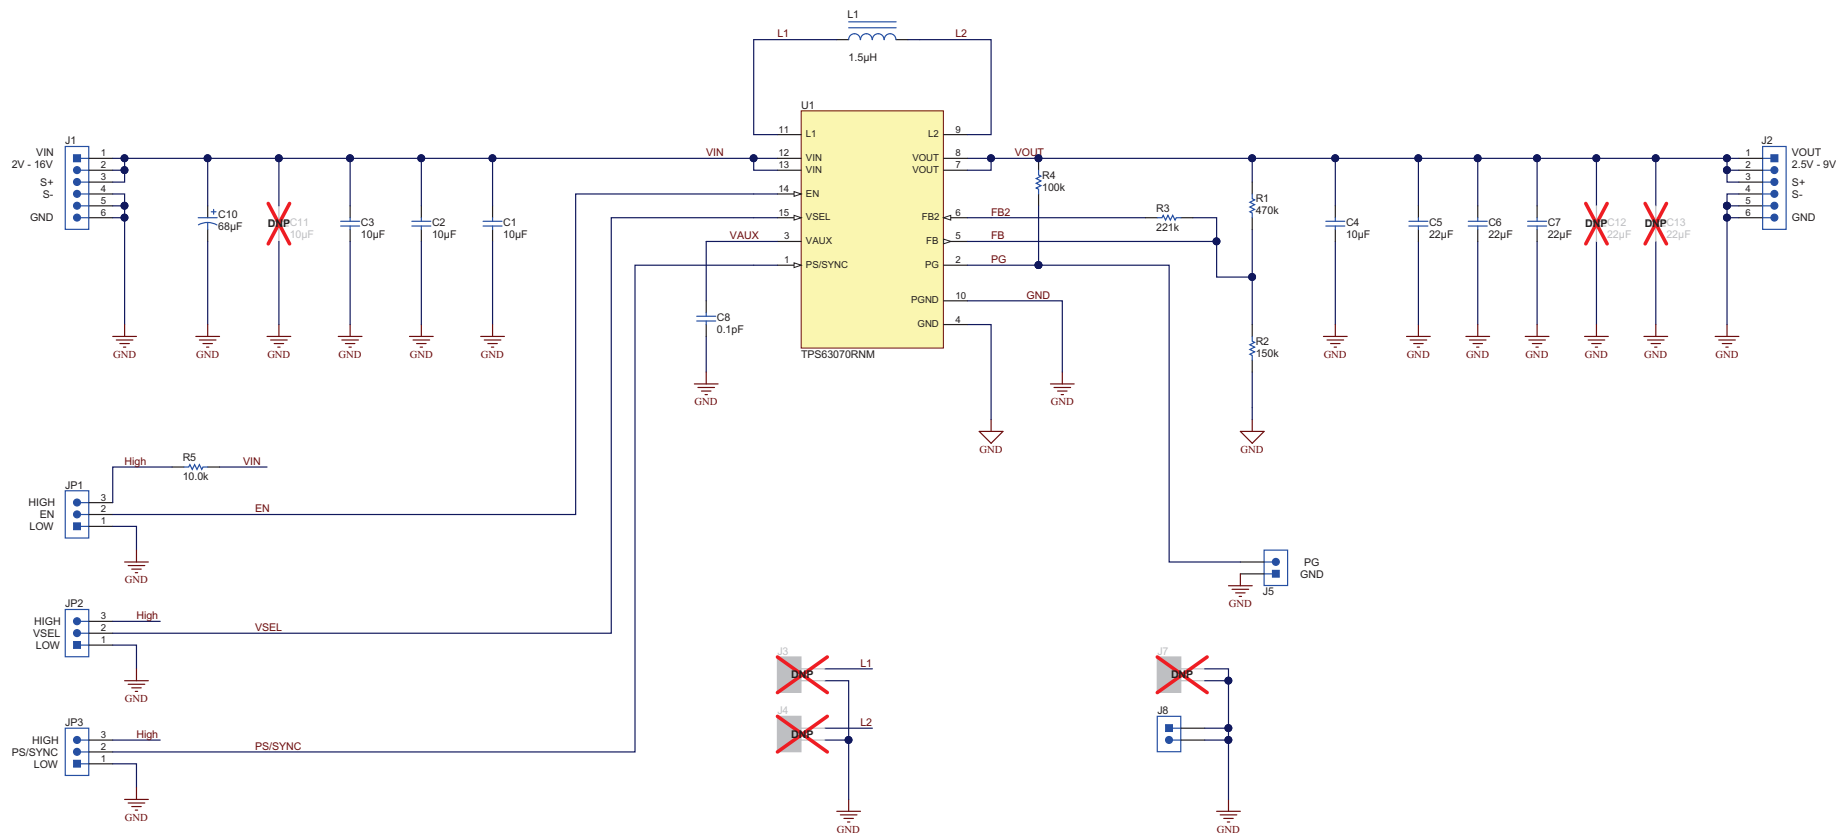

Figure 4. Schematic
- Reversed FB and FB2 names on the device block in Figure 4. EVM FB circuit line connects to Pin 5 of the device, and EVM FB2 circuit line connects to Pin 6 on the device. Changed C8 value from 0.1 μ F to 0.1pF. 6